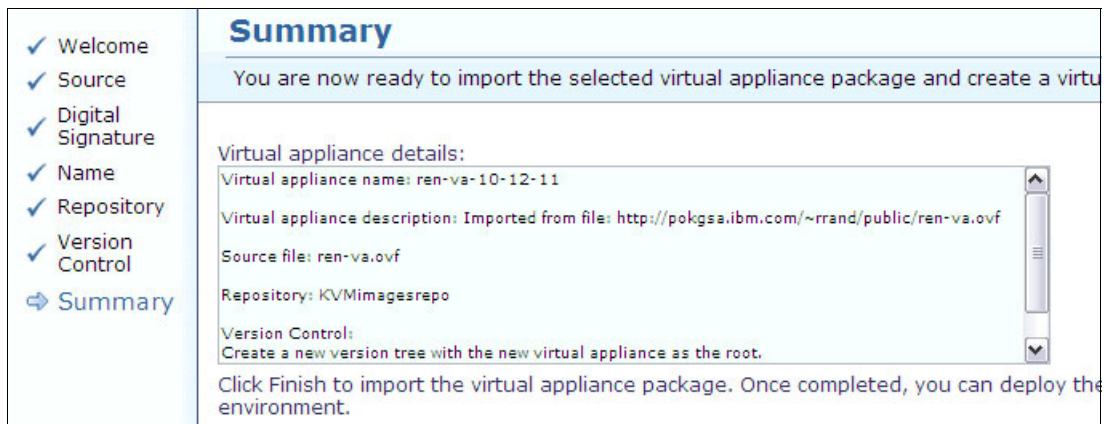

Figure 9-120 Import appliance summary
- Review the summary as shown in Figure 9-120, then click **Next**.